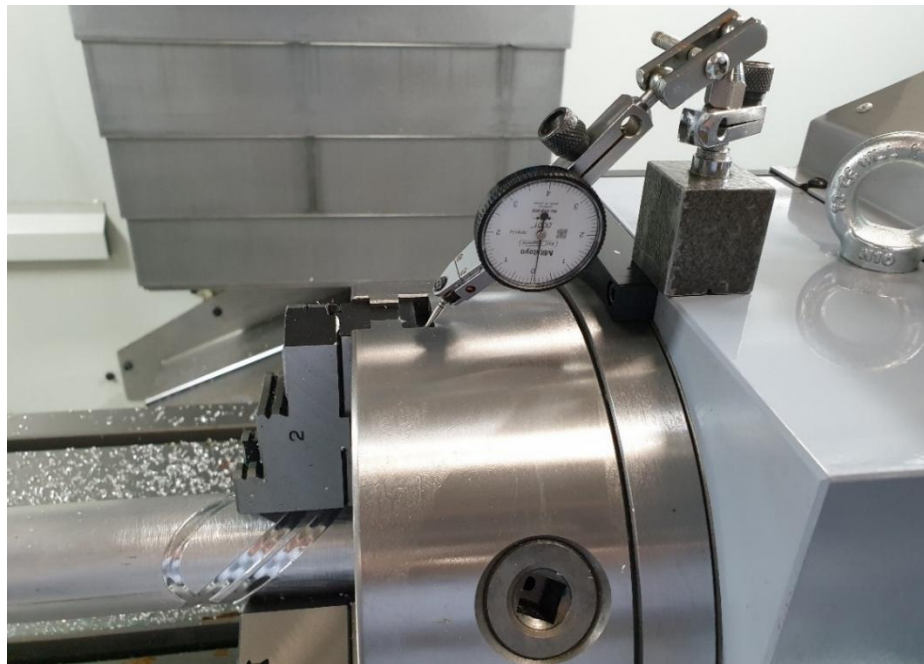

Figure 6.4.2 – Dial Indicator Mounted on the 4th Axis
1. Mount an indicator on the 4th axis unit as shown in figure 6.4.2.